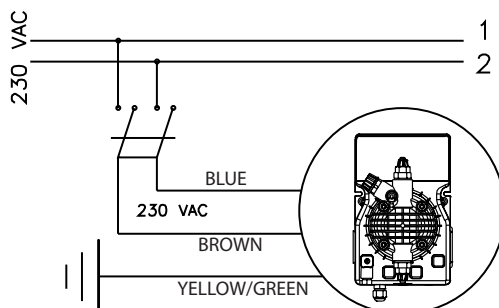

Fig. 4
- b.** - Carefully observe the regulations in force in the various countries as regards electrical installations (Fig.4). **When the supply cable is devoid of a plug, the equipment should be connected to the supply mains by means of a single-pole circuit breaker having a minimum distance of 3 mm between the contacts. Before accessing any of the electrical parts, make sure that all the supply circuits are open.**